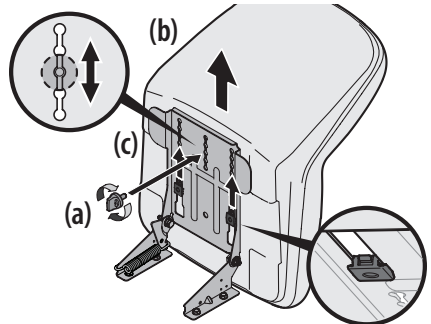

Figure 4
4. Slide the seat (b) rearward in the seat pivot bracket (c), lining up one of the slots in the seat pivot bracket (c) with the hole in the center rear of the seat (b) base. See Figure 4.
NOTE: Be certain the two seat tabs engage the seat pivot bracket as shown in the bottom right inset of Figure 4.
5. Select the desired position for the seat (b), and secure with the adjustment knob or 9/16" bolt (a) removed in Step 2. See Figure 4.